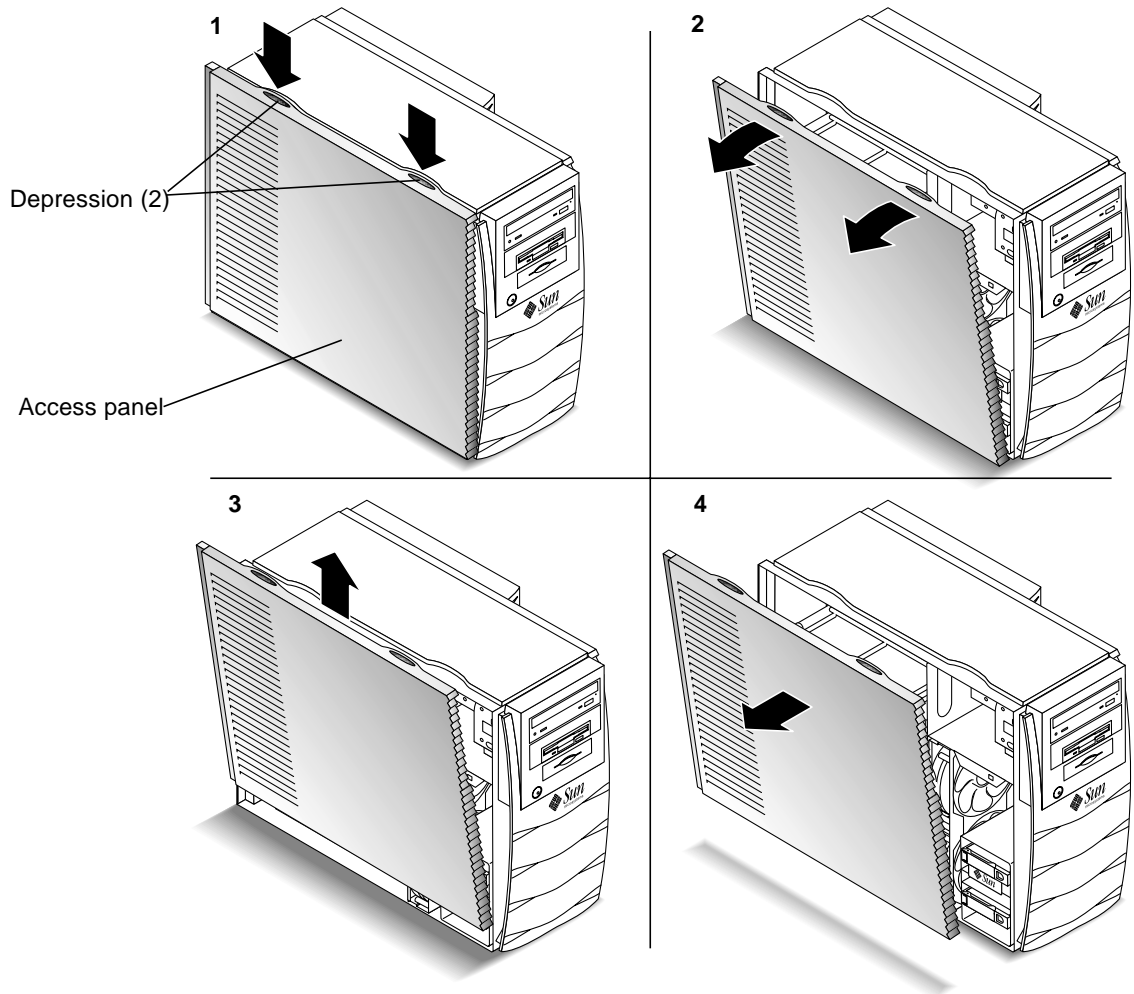

FIGURE 5-3 Removing the Access Panel
To remove the access panel (FIGURE 5-3):
1. **Press down on the two depressions at the top of the access panel (see FIGURE 5-3)**